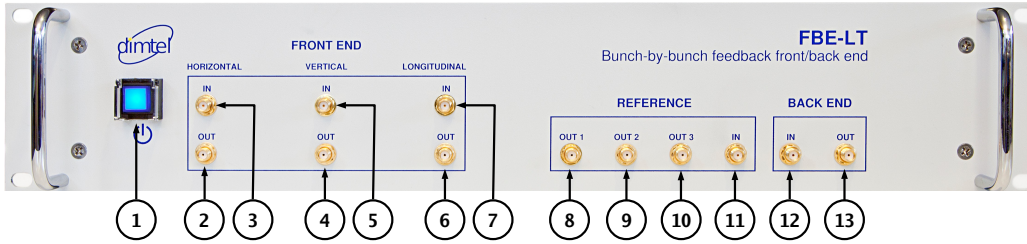

Figure 2: Front panel features
2. Connect radio frequency (RF) clock at 3 dBm nominal level (Fig. 2, item 5);
3. Connect the reference output (Fig. 2, item 8) to the CLK input of the iGp/iGp12;
5. Connect the front-end input (Fig. 2, item 3, 5, or 7) to the beam signal at the appropriate level;
6. Connect the front-end output (Fig. 2, item 2, 4, or 6) to the IN+ or IN- of the iGp/iGp12. Terminate the unused iGp/iGp12 input with a wideband 50 Ω SMA terminator;
7. Connect the back-end input (Fig. 2, item 6) to the OUT+ or OUT- of the iGp/iGp12. Terminate the unused iGp/iGp12 output with a wideband 50 Ω SMA terminator. When using iGp12, place a 4 dB attenuator between the DAC output and the back-end input;
8. Connect the back-end output (Fig. 2, item 7) to the power amplifier input;
10. Push the power button (Fig 2, item 1) to turn on the system;